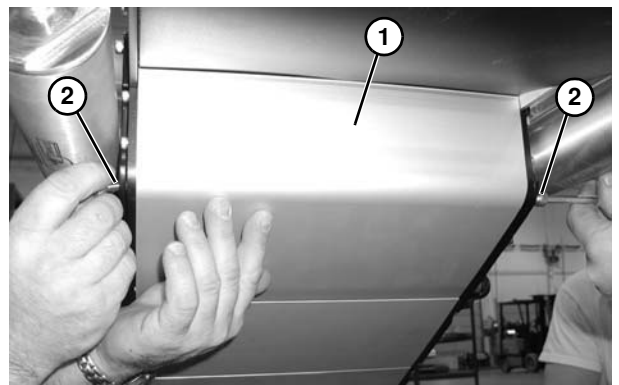

Figure 75
6. Temporarily support idler guard assembly (**Figure 75, item 1**). Remove screws (**Figure 75, item 2**).